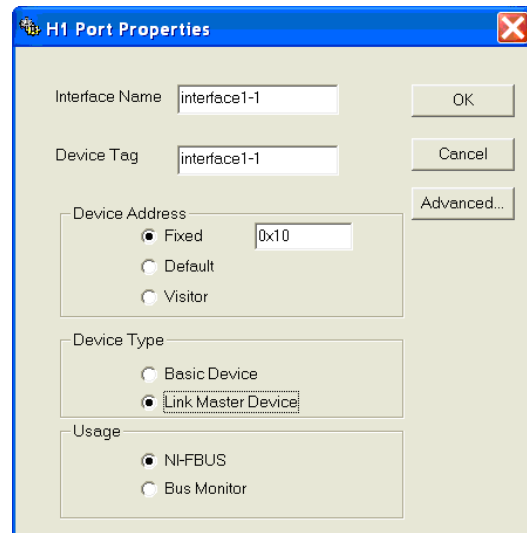

Figure 10-2. Configuring PORT1; Connects Physically to PORT2 on the Cable
On a two port fieldbus board, set the second port (PORT1) to LAS NI-FBUS to ensure ValveLink software uses the first port (PORT0). Refer to figure 10-2.
When using ValveLink Solo with a dual-port PCMCIA-FBUS/2 card, only one of the ports (PORT0) is used. ValveLink Solo will use the port configured as NI-FBUS. To prevent ValveLink Solo from attempting to use the second port (PORT1), configure that port as LAS NI-FBUS. Refer to figure 10-2.
**Step 6:** Select Link Master Device in the Device Type area and NI-FBUS in the Usage area, as shown in figure 10-2.